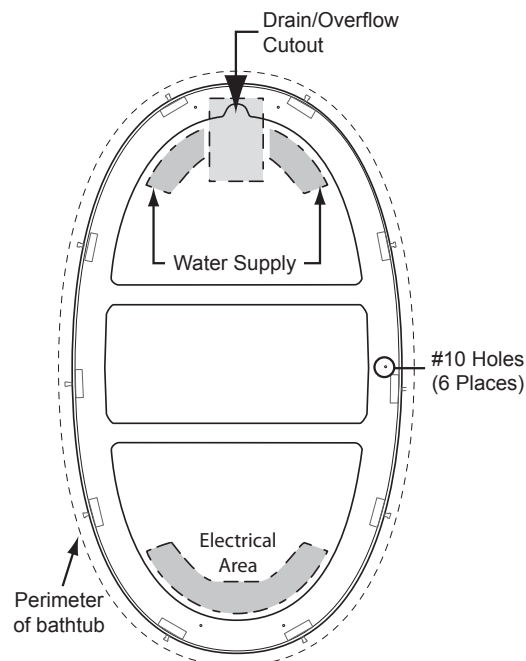

Figure 5. Gallery™ 7242 Faucet Installation
- 3 Faucetry is not supplied with the freestanding bath. To use deck-mounted faucetry, flexible connection lines that are 72" in length must be used. These lines need to be installed prior to installing the bath into the skirt. Refer to Figure 5 for possible locations of the faucetry in order to bring the water supply through the floor. If faucetry must be located outside of the recommended areas, you must be careful not to locate it where it will interfere with the location of the mounting brackets.
- 4 Prepare the Electrical Outlet. A dedicated floor outlet must be provided in the areas designated as electrical areas in Figure 5.